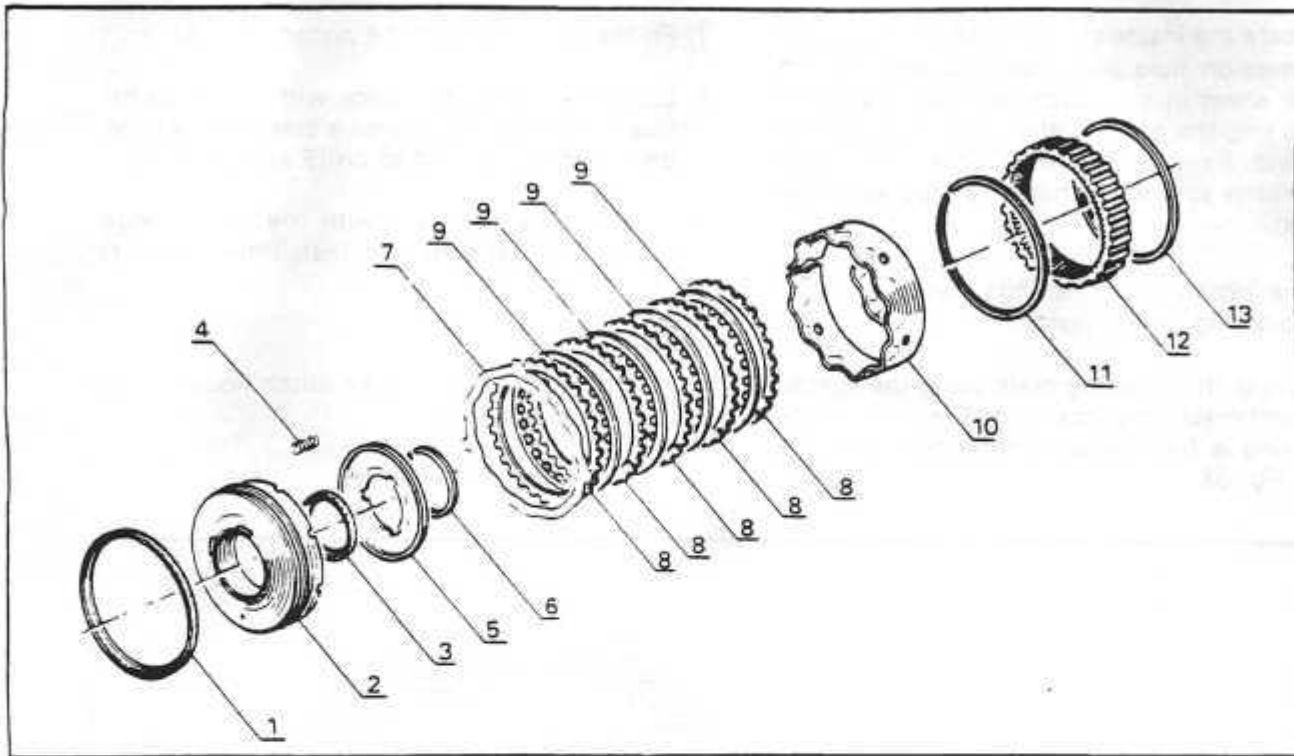

Fig. 60
CLUTCH C-2 – Fig. 60
7. Fit the wave plate on the piston. *Fig. 60*